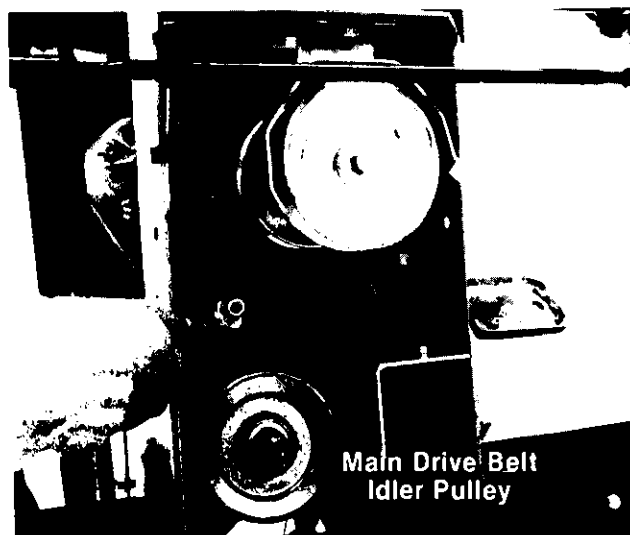

FIGURE 29.
3. Remove the main drive belt idler pulley. See figure 29.